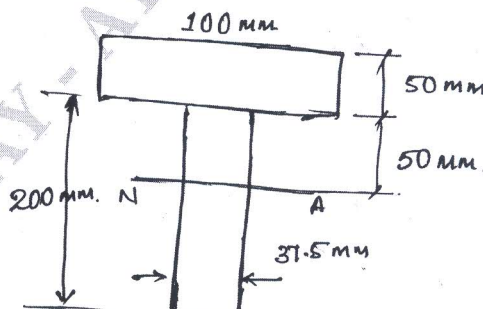

Fig.Q7(b)
b. The T section of a beam is shown in Fig.Q7(b). The material of beam has yield strength of 250MPa. Determine maximum moment of resistance that the beam can support if yielding is to be avoided. (10 Marks)